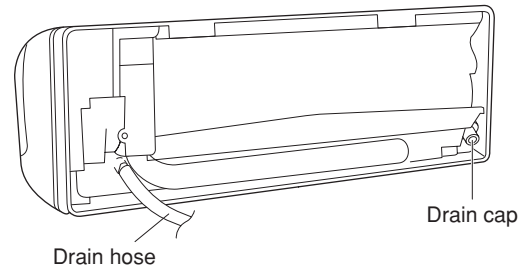

Fig. 39
- (a) Locate the drain hose and the drain cap. (Fig. 39)
- (b) Remove the screws fastening the drain hose on the right side, and pull out the drain hose to remove it. (Fig. 39)